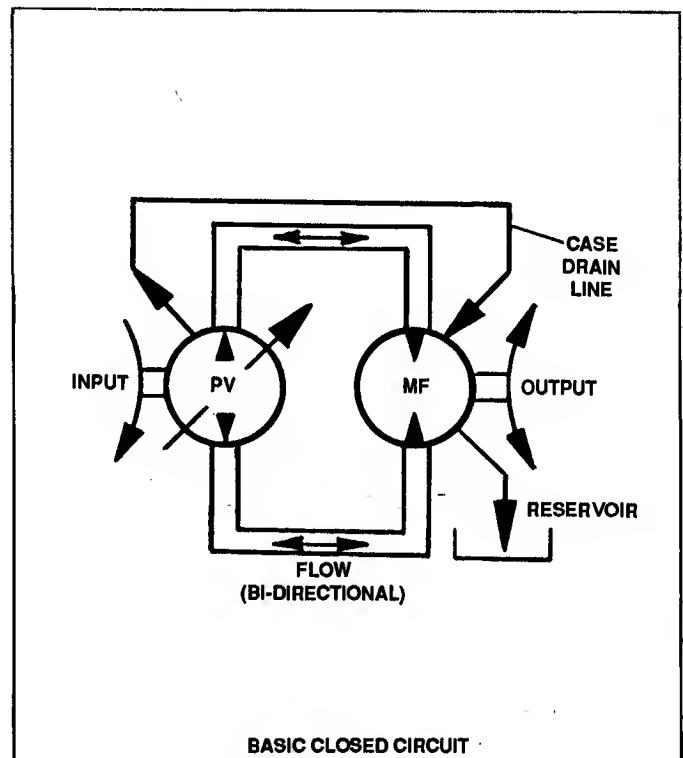

FIGURE 9.11
- (2) An integral system in which the pump and motor are contained in the same housing with pressurized fluid internally contained.
- (b) The variable pump (PV) is driven by a prime mover, typically an internal combustion engine. The fixed motor (MF) drives the vehicle transmission or other work function. Direction of rotation and speed of the motor shaft depends on the output flow of the pump. System pressure is dependent upon vehicle tractive resistance or other work function requirements. See Figure 9.11.